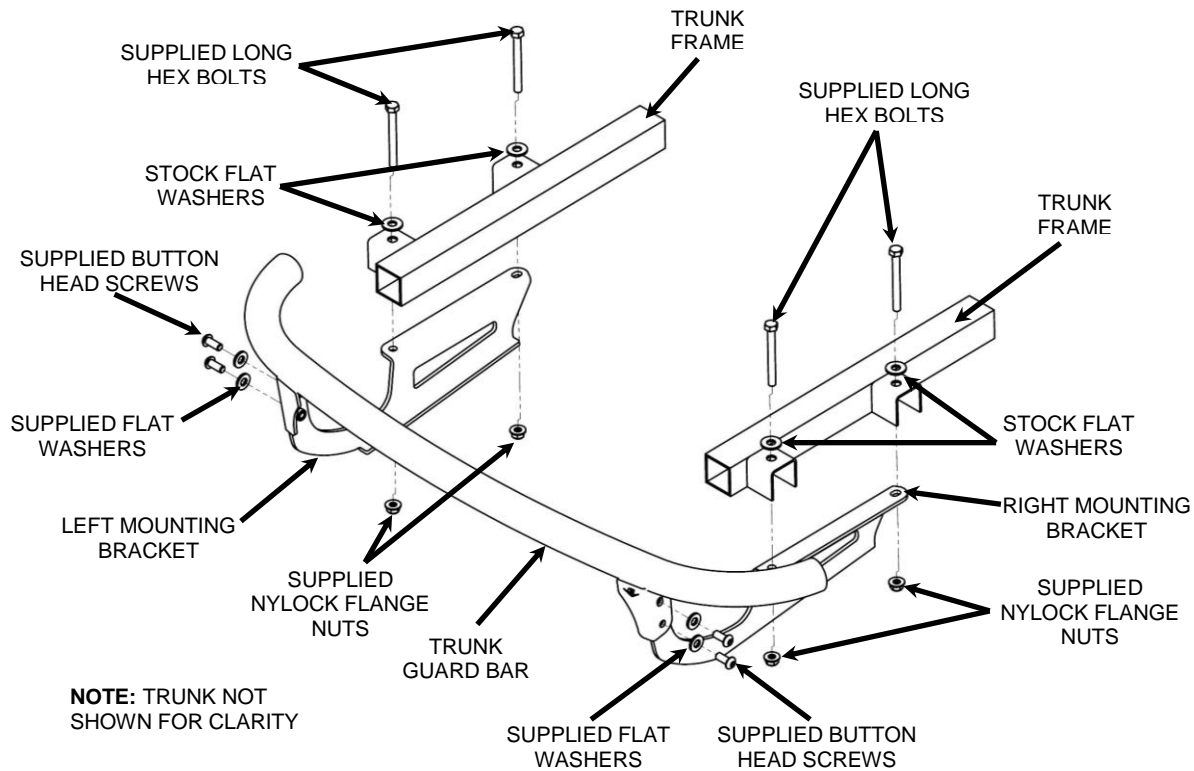

FIGURE 3
7. From underneath the trunk, use the supplied nylock flange nuts to attach the right mounting bracket onto the ends of the trunk bolts. See **FIGURE 3**. The right mounting bracket will be stamped with a part number ending in an "R". Snug the bolts but **DO NOT TIGHTEN** at this time.
8. Do the same for the left mounting bracket. See **FIGURE 3**. The left mounting bracket will be stamped with a part number ending in an "L". Snug the bolts but **DO NOT TIGHTEN** at this time.
9. Carefully attach the trunk guard bar to the brackets using the supplied button head screws and washers. See **FIGURE 3**. Snug the screws but **DO NOT TIGHTEN** at this time.
12. Make sure to check the tightness of all (4) flange nuts and (4) button head screws on the trunk guard after the first ride and after the first 500 miles.